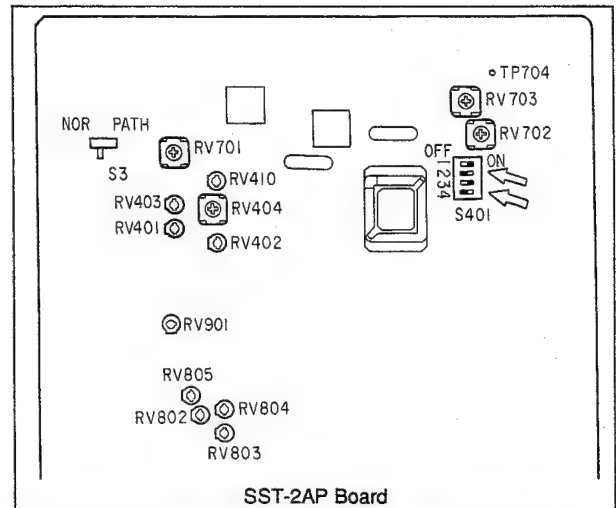
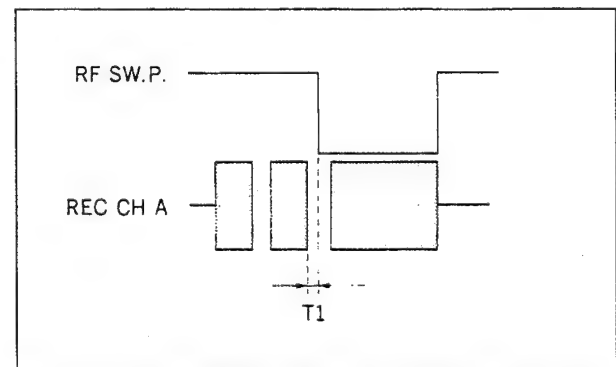

Fig. 6-10-1 Switching position check (REC A) ①
Fig. 6-10-2 Switching position check (REC A) ②
2. Set the switches S401-1 and -3 on the SST-2AP board to ON (Fig. 6-10-1).
4. Use the REC head PB harness in the same condition as section 6-9, item 1.
6. Check the error T1 of the wave shape indicated in the figure to satisfy specifications 1 (Fig. 6-10-2).